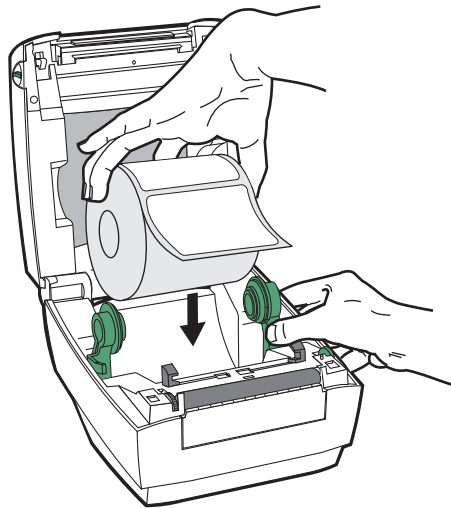

Figure 5
3. Place the media roll onto the media hangers, ensuring that it is tightly wound (refer to Figure 5).